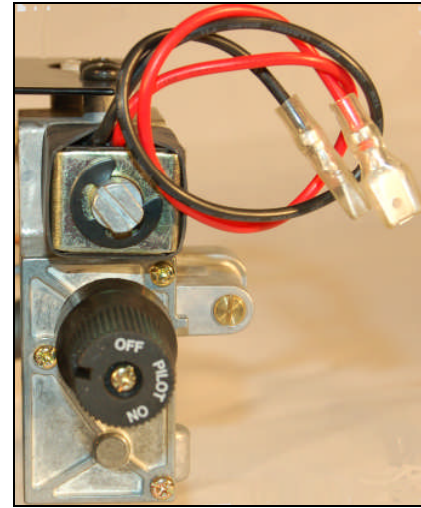

FIGURE 10
- 1- The American Flame, AF-1000 Series Valves (AF-1010 shown here with remote solenoid shown separately in diagram). All systems use a safety pilot, with a thermocouple. (SEE FIGURE 10 & 11)